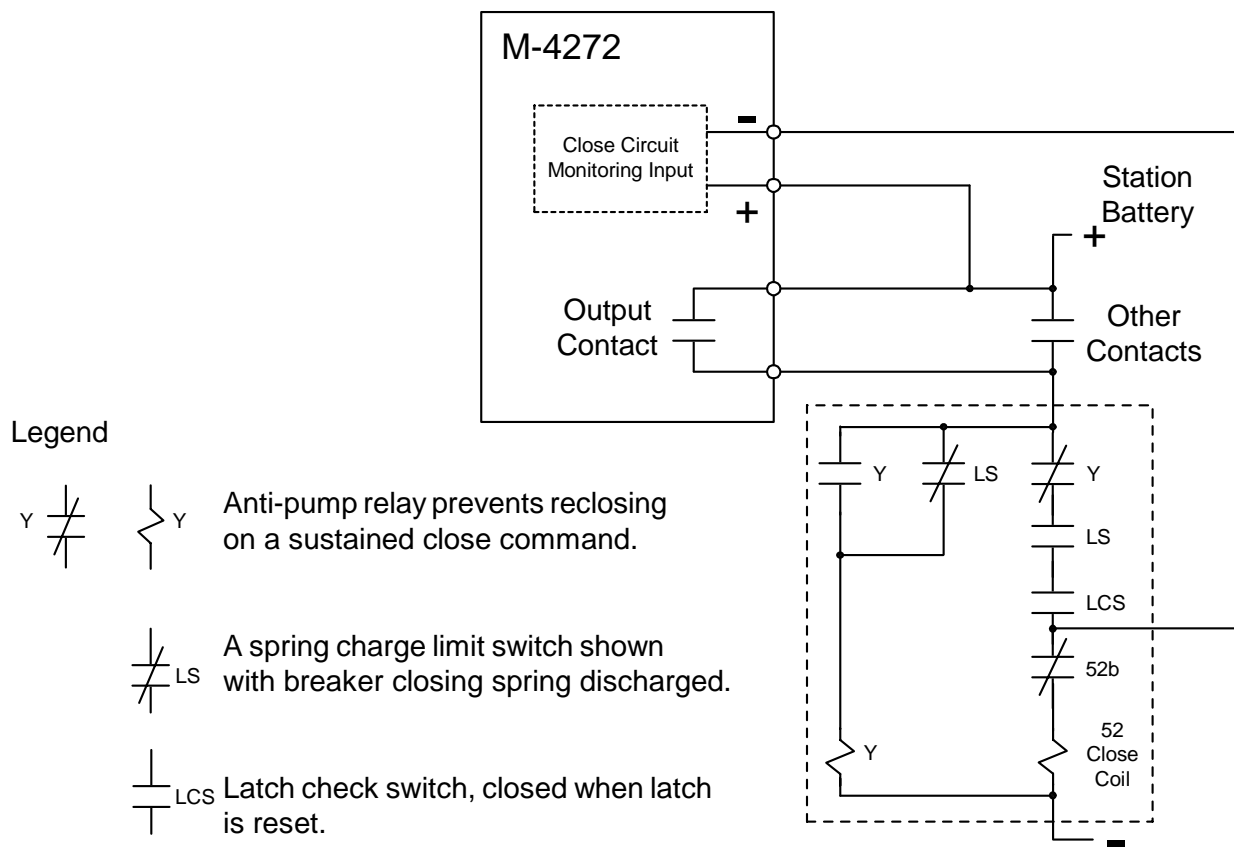

Figure 4-86 Recommended Close Circuit Monitoring Input Configuration
Figure 4-86 displays the settings for the CCM (Close Circuit Monitor) function. The settings for the CCM #2 Close Circuit Monitor are the same as the CCM #1.
**CCM Connection Considerations** — External connections for the Close Circuit Monitoring function are shown in Figures 4-86, 4-87 and Figure 5-4.
Beckwith Electric Co., Inc. recommends that the M-4272 CCM circuit be connected directly to the close coil, bypassing the anti-pump “Y” relay portion of the close circuit as illustrated in Figure 4-86.